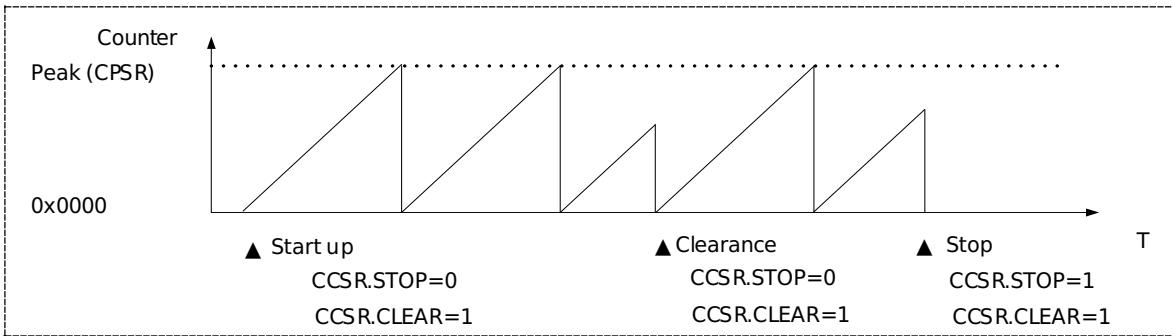

Figure 19-4 Timer4 sawtooth wave mode counting action
- 1) The sawtooth wave counting operation and control flow are as Figure 19-4 shown.